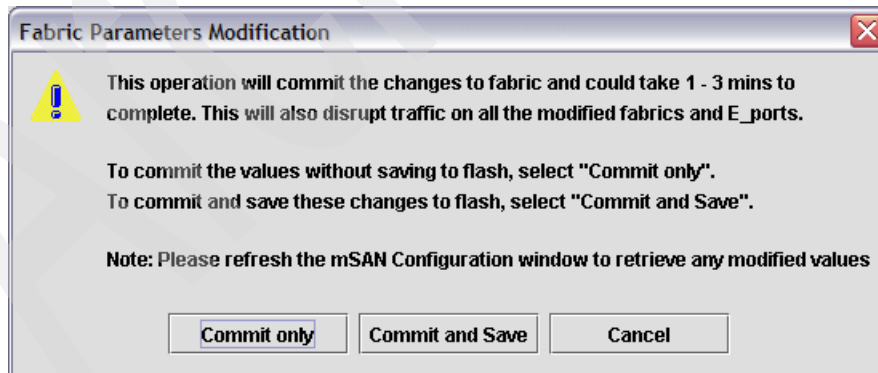

Figure 17-52 Fabric modification warning
- Click the **Commit to Fabric** button. The fabric modification warning shown in Figure 17-52 appears. Click **Commit and Save** to proceed.